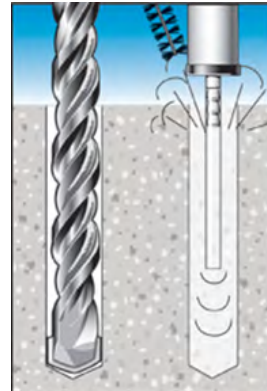

Figure 5.1A
5.1.2 Remove dust and debris by brushing and blowing 3 times each as shown in Figure 5.1A (If hole is wet or flooded, remove excess water with wet/dry vacuum).